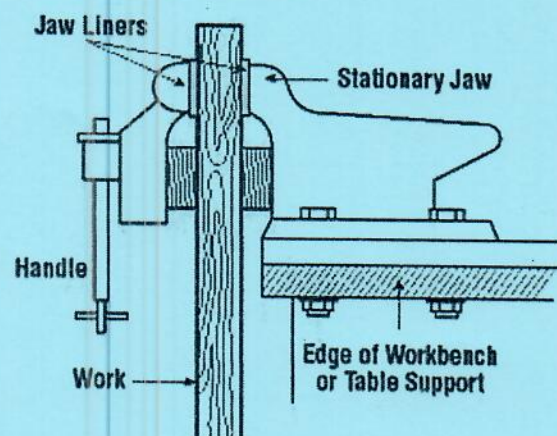

Figure 4 Mounted bench-vice workbench combination
- d) Figure 4 shows a bench-vice holding a long work-piece. Discuss the considerations taken when mounting the bench-vice on the workbench for such operations. [4 marks]